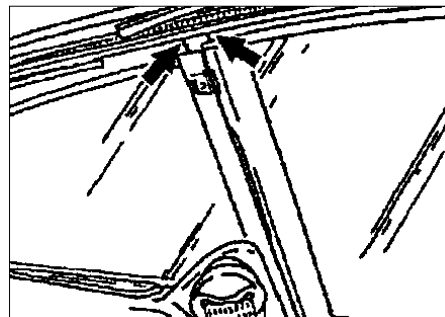

Figure 9
- Close the gap on the "B" pillar (arrows, figure 9) to the roof frame in the area above the coat hook using body sealer.